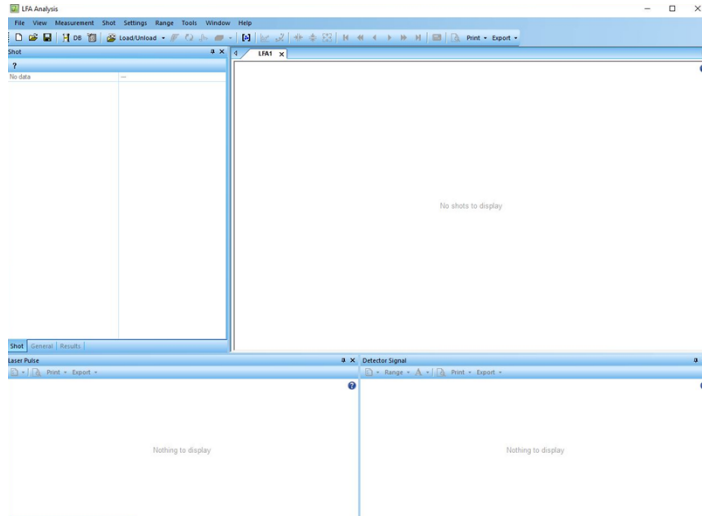

Figure 26. Empty analysis main screen.
- The main screen will open to an empty analysis (as shown in Figure 26).